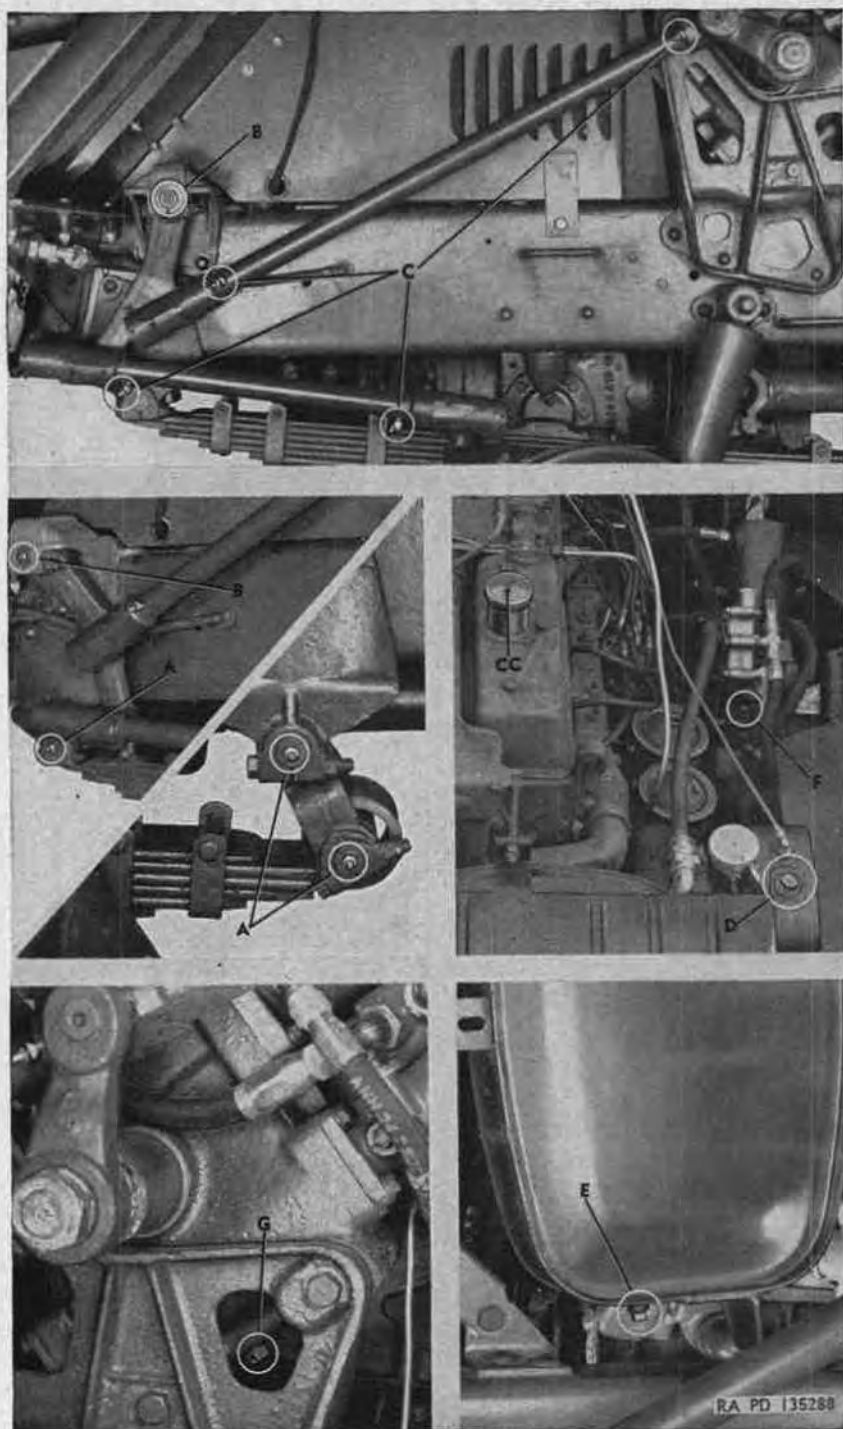

Figure 107. Localized lubrication points (A-G).
- (1) Lubricating fittings, grease cups, oilers, and oilholes are shown in figures 107 through 114 and are referenced to the lubrication order. Wipe these devices and the surrounding surfaces clean before and after lubricant is applied.